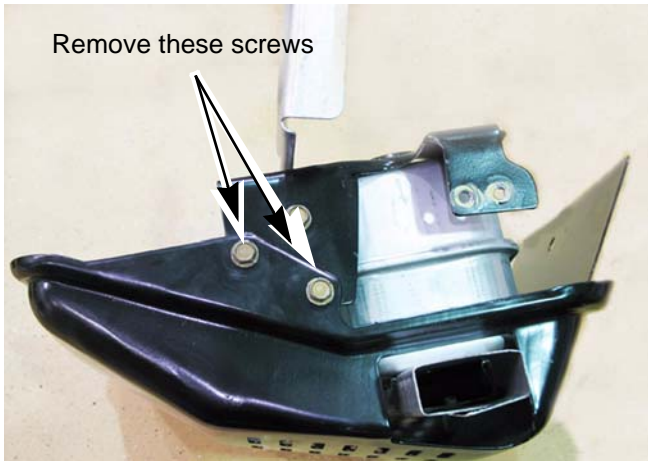

Figure 2.5
6. Remove the two screws that fasten the muffler guard to the muffler bracket. See Figure 2.5.